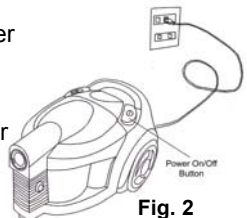

Fig. 2
3. To rewind the power cord, press the cord rewind button with one hand and hold the plug of the power cord with the other hand to ensure that it does not whip causing damage or injury. (Fig. 2)